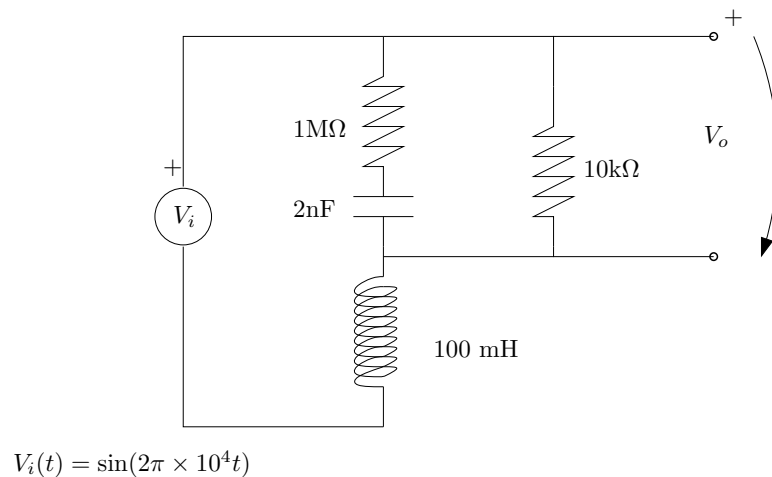

Figure 1: Example System
We will use the simple, linear RLC circuit shown in Fig. 1 as an example of the basic way to work in 20-sim.
6. Enter numerical values for all elements and for the Waveform Sine block, according to Fig. 1.